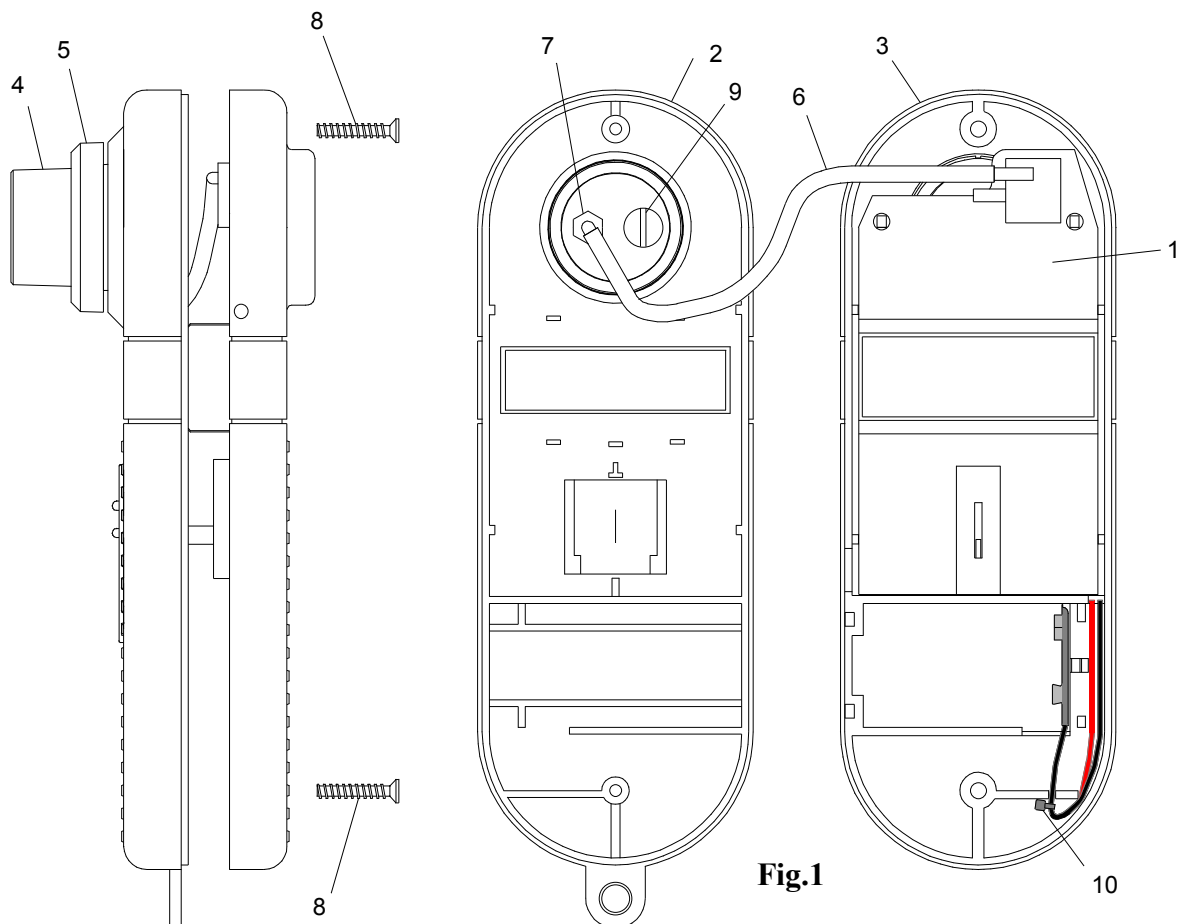

Fig.1
4. Turn the unit face up and ease the top moulding from the bottom moulding and turn the top moulding to reveal the PCB as shown in Fig.1 (page 4).
1. Place the PCB into the bottom moulding and route the battery lead as shown in Fig.1.